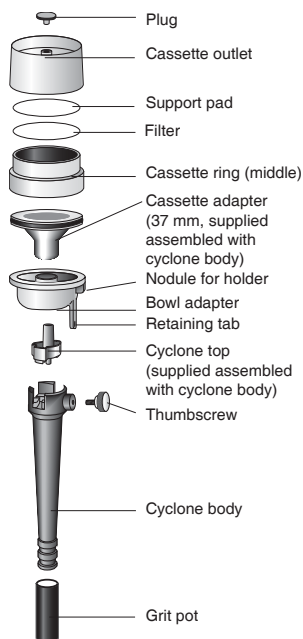

Figure 1
Assembly with Standard 37 or 25-mm 3-piece Cassette (Figure 1)
1. Prepare a cyclone/cassette assembly (see Figures 1 and 2). Ensure grit pot remains on cyclone body during calibration.